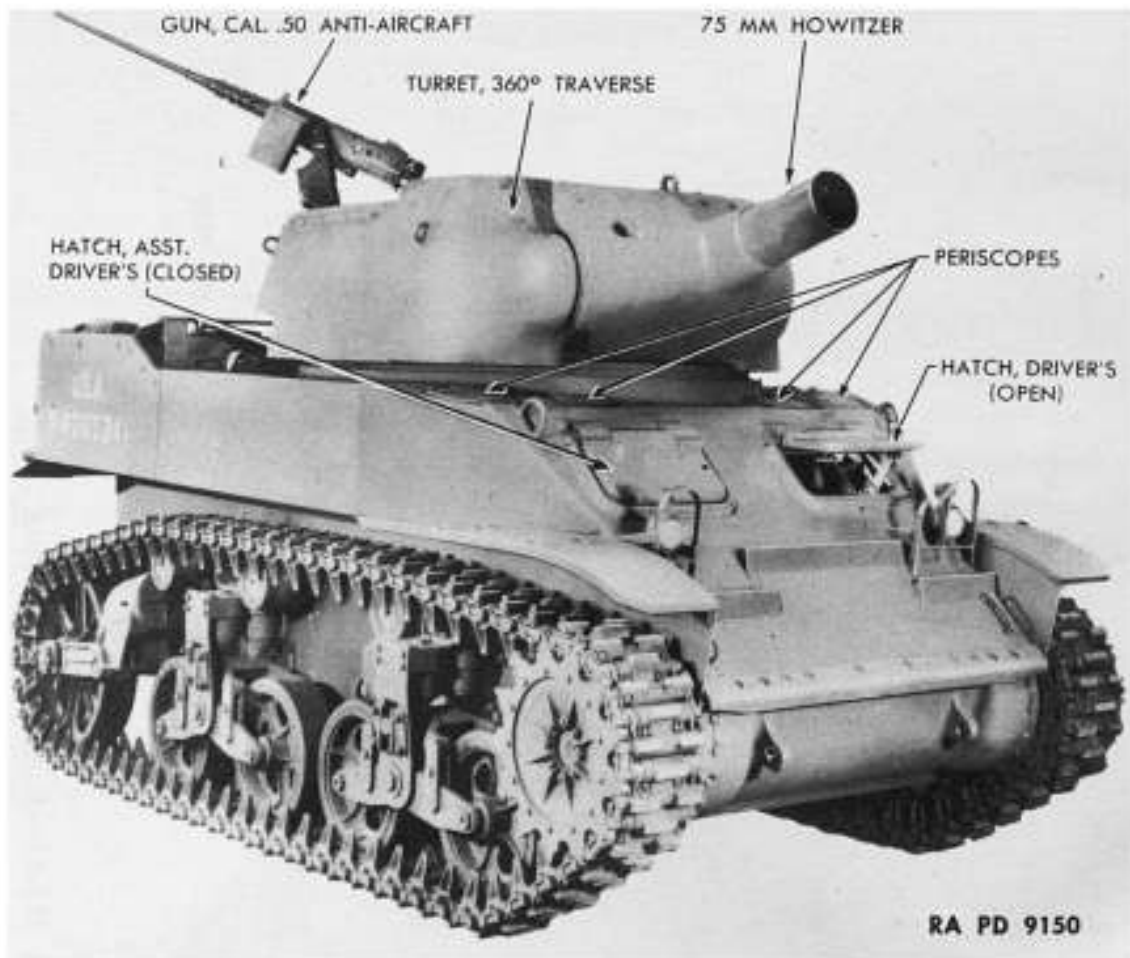

Figure 3—Motor Carriage M8—Right Front View
b. The 75-mm Howitzer Motor Carriage M8 (fig. 3) is an armored, full track-laying, self-propelled mount for a 75-mm howitzer. It carries a crew of four men. It is powered by the same engines, transmissions, and power train as the Light Tank M5.